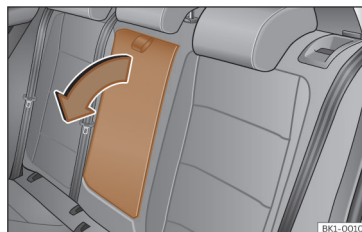

Fig. 91 Folding rear centre armrest (schematic view).
- To **lower** the armrest, pull the cord in the direction of the arrow >>> **Fig. 91**.